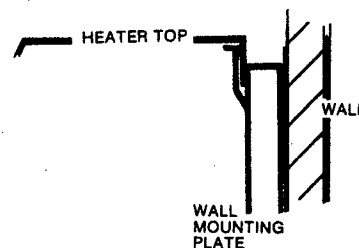

FIG. 5. WALL HANGING
**STEP 5.** Hang the heater on the upper mounting plate. Make sure the back lip on the heater top is properly located over the top edge of the mounting plate. (Figure 5)